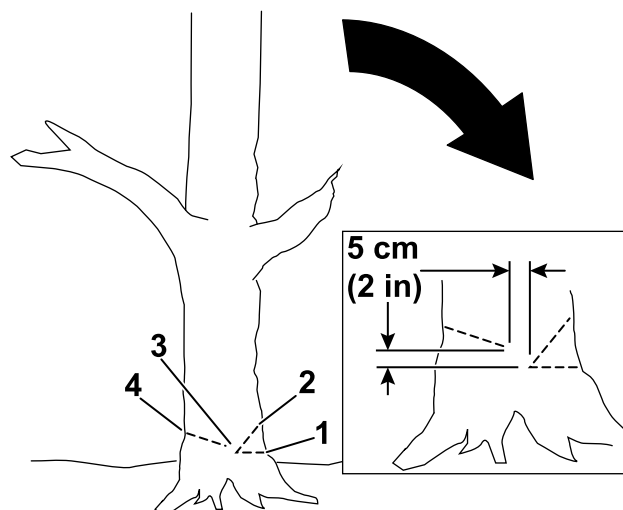

Figure 18
- Make a second cut to form a notch, starting the cut at least 5 cm (2 inches) above and away from the first cut (Figure 18).
- Make the back cut from the opposite side of the notch and about 5 cm (2 inches) higher than the bottom of the notch as shown in Figure 18.
**Important:** Stop the third cut 2.5 to 5.0 cm (1 to 2 inches) from the notch to form a hinge between the cuts (Figure 18), which keeps the tree from falling in the wrong direction or twisting as it falls.
**Note:** As the back cut nears the hinge (Figure 18), the tree should begin to fall.
- Make the first cut a third of the way through the tree diameter on the side where you want the tree to fall (Figure 18).